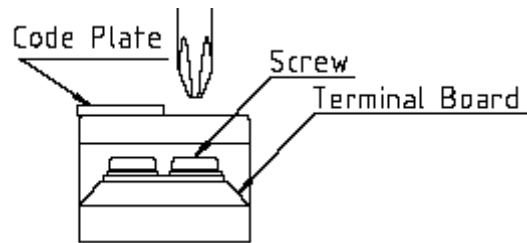

FIGURE 2-16
- Refer to **Figure 2-16**. Remove the screw that is located on the terminal board. Make sure that the Phillips screwdriver is inserted perpendicular to the screw head.